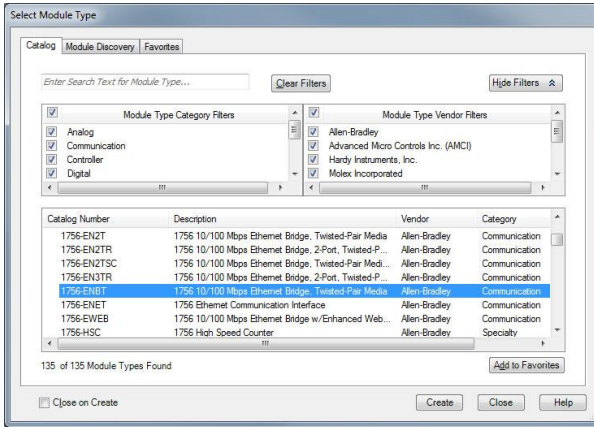

Figure 25: Adding a New Module
- 5) Select the “1756-ENBT/A”, and click “Create”. Refer to Figure 25.